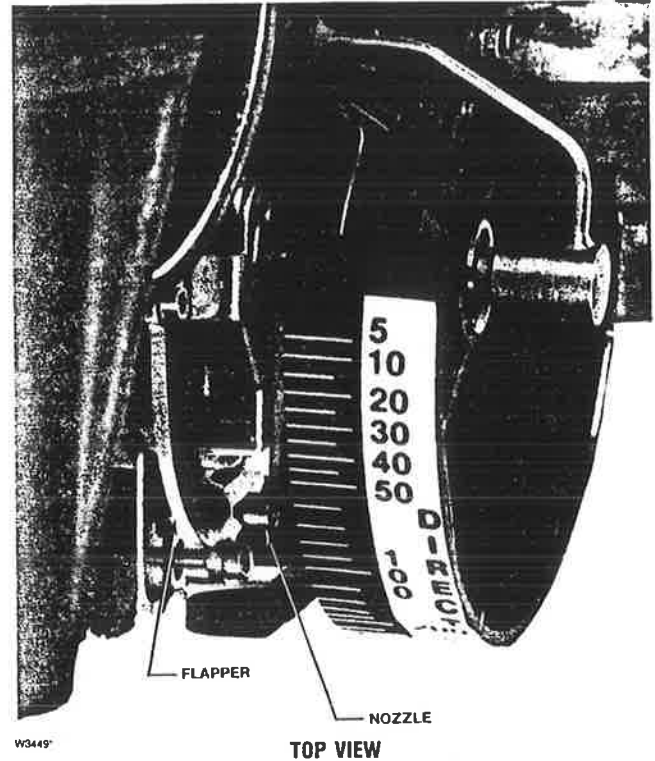

Figure 6-8. Nozzle-Flapper Positioning
24. Center the nozzle on the flapper as shown in figure 6-8 while squeezing the set point beam assembly firmly against the relay nozzle tubing assembly. With the nozzle centered on the flapper, tighten the screw (key 19). Ensure that the nozzle is still centered on the flapper.
25. Install the pivot of the adjustable pivot assembly (key 17) in the hole in the set point beam (key 23).
26. Install the washer (key 20) on the screw (key 19).
27. Install the screw (key 19) through the frame (key 3) into the set point pivot assembly (key 17). Do not tighten.
28. Squeeze the adjustable set point pivot firmly against the set point beam and tighten the screw (key 19). Ensure the nozzle is still centered on the flapper.
29. Turn the proportional band knob to 5 percent direct action. Loosen the locking nut on the adjustable set point pivot assembly (key 17) and back the set screw out slightly such that the set point beam assembly will fall under its own weight, with a minimum of sideplay between the pivots. Tighten the locking nut.
30. Tighten the nut on the relay nozzle tubing assembly (key 18) and reconnect supply pressure. With the nozzle capped for maximum output pressure, check for leaks. Disconnect supply pressure.
26. Center the nozzle on the flapper as shown in figure 6-8, while squeezing the set point beam assembly firmly against the relay nozzle tubing assembly. With the nozzle centered on the flapper, tighten the screw (key 19).
28. Install the pivot of the adjustable set point pivot assembly (key 17) in the hole in the set point beam (key 23).
29. Install the washer (key 20) on the screw (key 19).
30. Install the screw (key 19) through the frame (key 3) into the adjustable set point pivot assembly (key 17). Do not tighten.
31. Squeeze the adjustable set point pivot firmly against the set point beam and tighten the screw (key 19). Ensure that the nozzle is still centered on the flapper.
33. Tighten the relay nozzle tubing nut (key 18). Reconnect supply pressure and, with the nozzle capped for maximum output pressure, check for leaks. Disconnect the supply pressure.